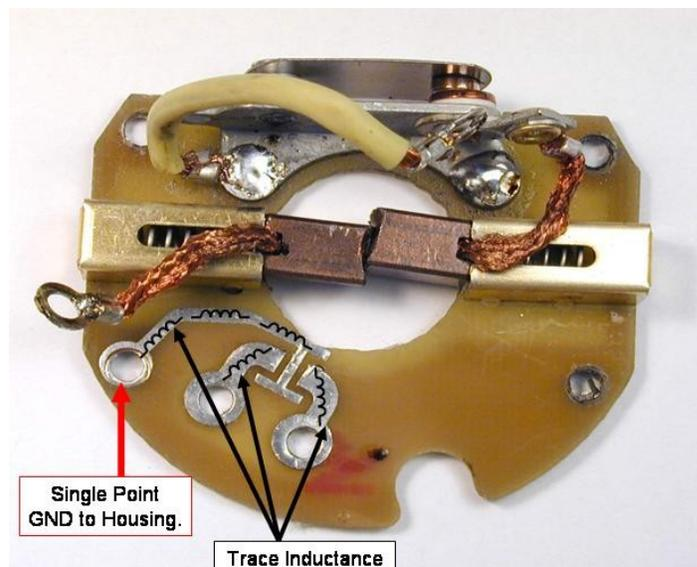

Figure 3. Negative aspects of the design that hinder EMI suppression.
Figure 3 highlights some negative aspects of the design that hinder EMI suppression. Addressing the following problems can improve EMI suppression dramatically:
2. A parallel ground hierarchy should exist from the X2Y® component to the motor housing to reduce ground inductance (Principle #4). Figure 3 show that the ground trace terminates at a single point.